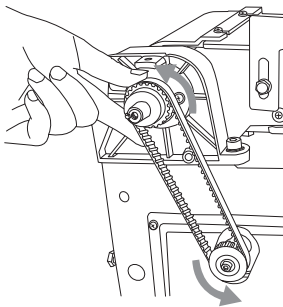
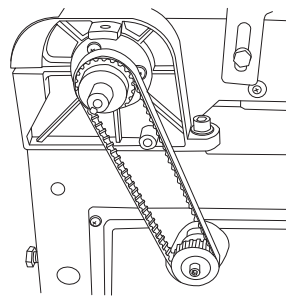

Fig. 43
Fig. 44
- > Fit the new belt over the lower motor spindle pulley and over the top pulley as in Fig. 43. To help engage the belt pulley with the top pulley teeth, rotate the motor spindle counter-clockwise while applying horizontal pressure to the belt at the top pulley (Fig. 43). Ensure the belt is correctly located on both pulleys. Fig. 44 shows the belt in the correct location on the upper pulley.